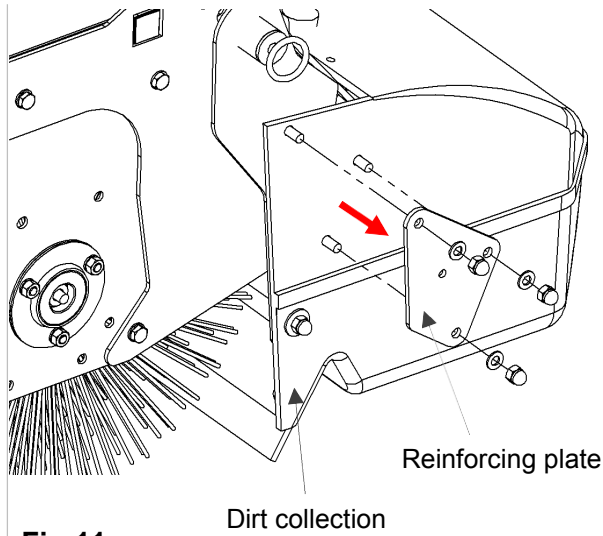

Fig.11
1. Dismount the reinforcement plate, 3 cap nuts and washers from the dirt collector, see Fig.11